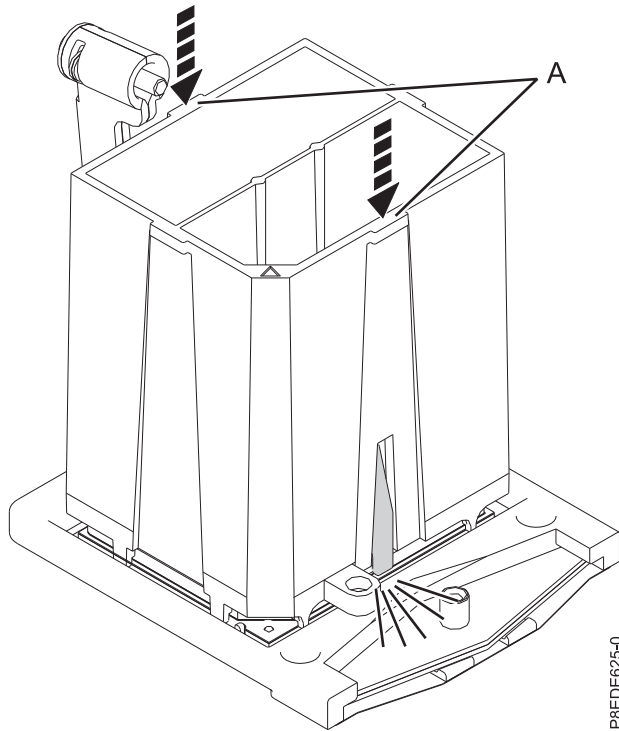

Figure 15. Locking the replacement system processor module in the removal tool
- c. Push down on the tool at the locations that are indicated by the arrows to lock the system processor module into the removal tool. See Figure 15 on page 17. Do not press the blue release tabs until directed to do so later.